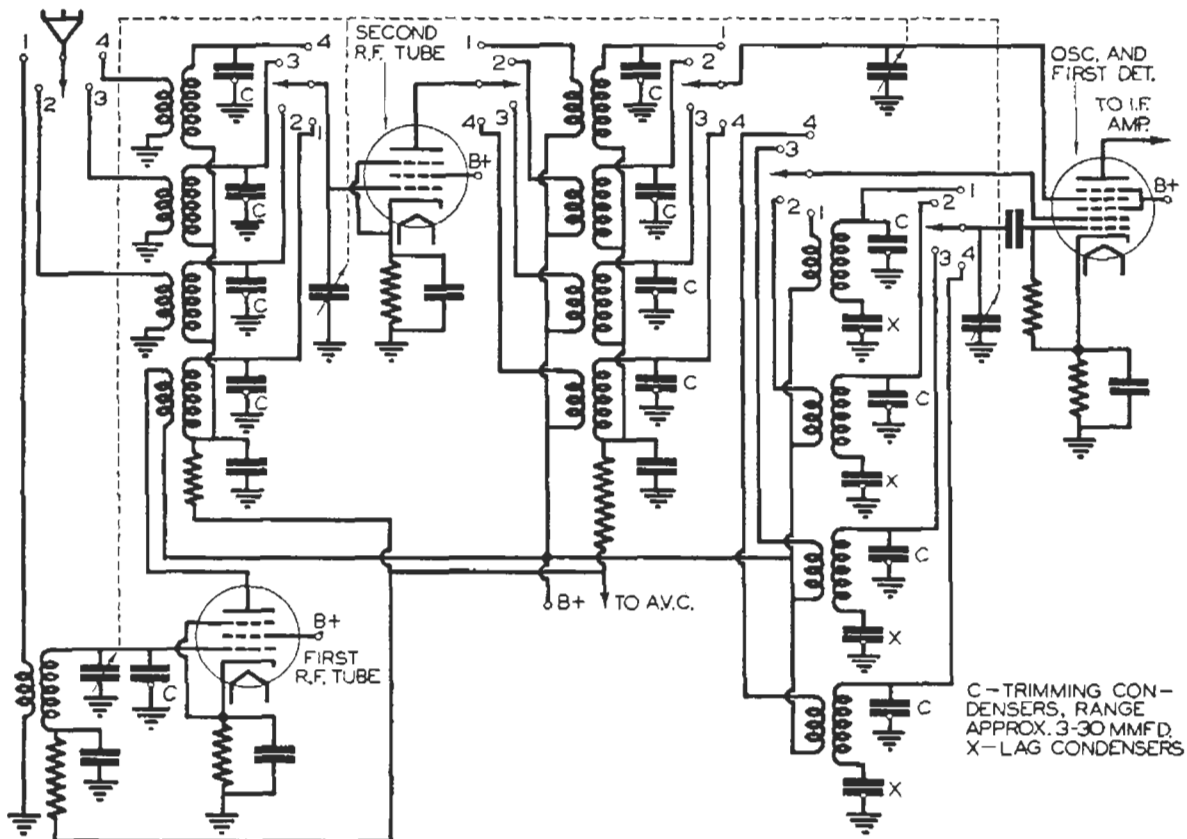

FIG. 7. An all-wave receiver with independent bands.
**Independent Bands.** Fig. 7 shows a conventional, highly flexible preselector system for all-wave reception. One stage of r.f. amplification is used in all bands except the highest one, where an additional r.f. stage is em-